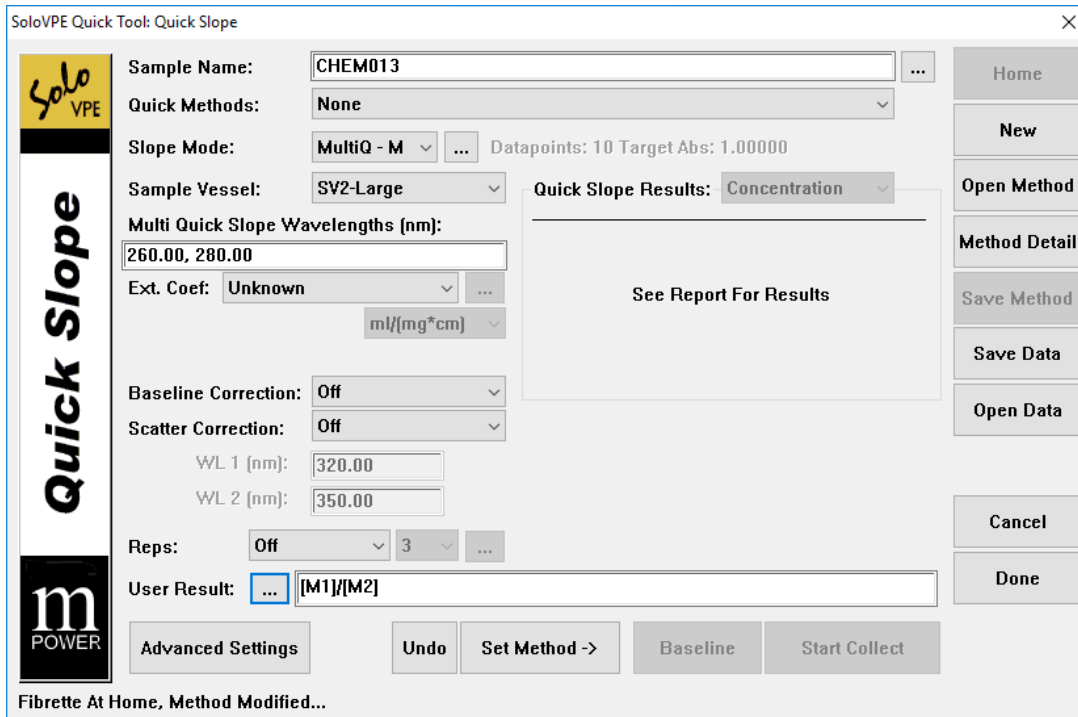

Figure 29. Quick Tool Quick Slope with user results.
The User Result calculator allows mathematical expressions to be set up using slope values. For example, if a Multi-Q Quick Slope measurement is being taken at two wavelengths, 280 nm and 310 nm, represented as [M1] and [M2] respectively, will be granted. As shown in Figure 29, these tokens appear in the Parameter List on the left side of the Setup User Result window.
- The expression will now appear in the User Result field in the Quick Slope menu as shown in Figure 29.